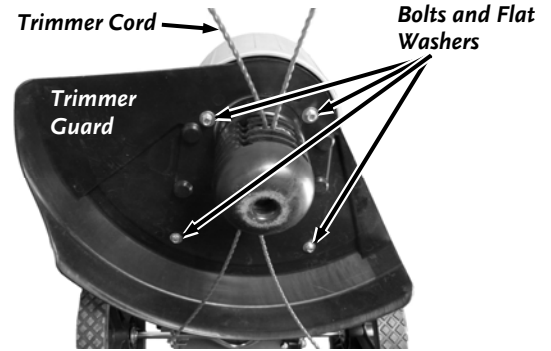

Figure 25
1. Tip the machine back to access the underside (**Figure 25**).
11. Position the Trimmer Guard and secure with the four Bolts and Flat Washers using the 3/8" Wrench (**Figure 25**).